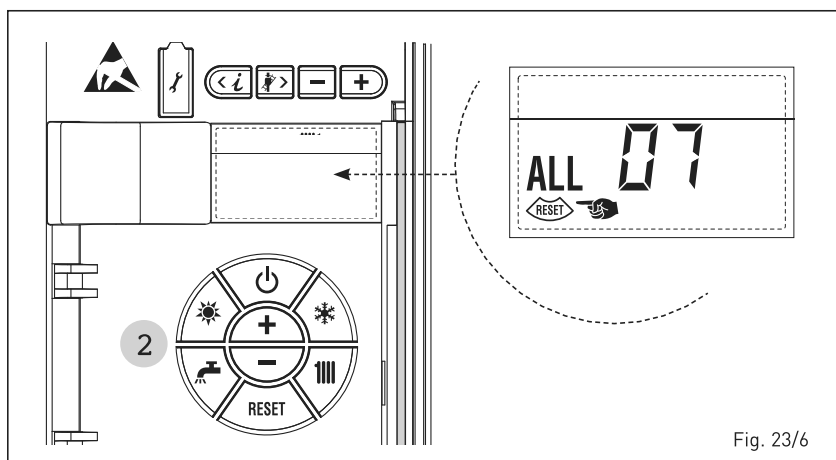

Fig. 23/6
– **ANOMALIA CHAMA PARASITA “ALL 08” (fig. 23/7)**